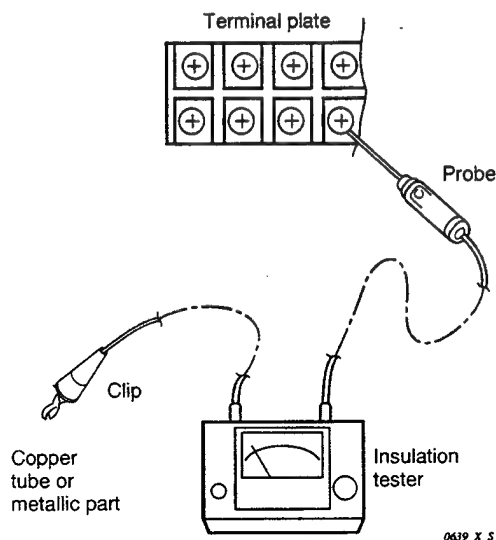
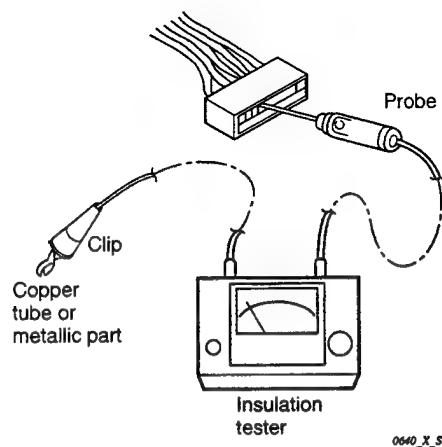

Fig. 7
Fig. 8
Clamp an aluminum plate fin or copper tube with the lead clip of the insulation resistance tester and measure the resistance by placing a probe on the terminal plate (Fig. 7)
③ Outdoor Unit
Measure the resistance by placing a probe on the terminal plate in the same manner as explained above ②. (Fig. 7)
④ Measurement of Insulation Resistance for Electrical parts
- Disconnect the connector of the desired electric part from terminal plate, P.C.B. Ass'y, etc. (Fig. 8)